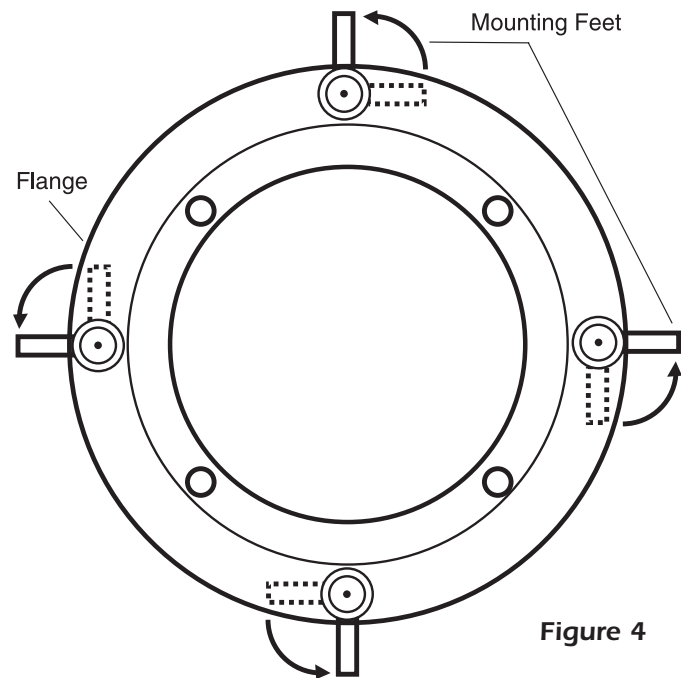

Figure 4
3. Make sure the mounting feet are turned inward to clear the opening, and insert the speaker into the ceiling. Position the speaker into the hole. Note: The flange of the speaker is designed to flex and conform to any small imperfections in the ceiling surface. Tighten the 4 screws on the front of the baffle only enough to make the flange become snug against the ceiling. As you tighten the screws, the feet will automatically flip into an outward position (See Figure 4), clamping the drywall between the feet and the flange. **CAUTION:** Over tightening may warp the baffle, crack the ceiling, cause the flange to distort, and make the grille difficult to install.